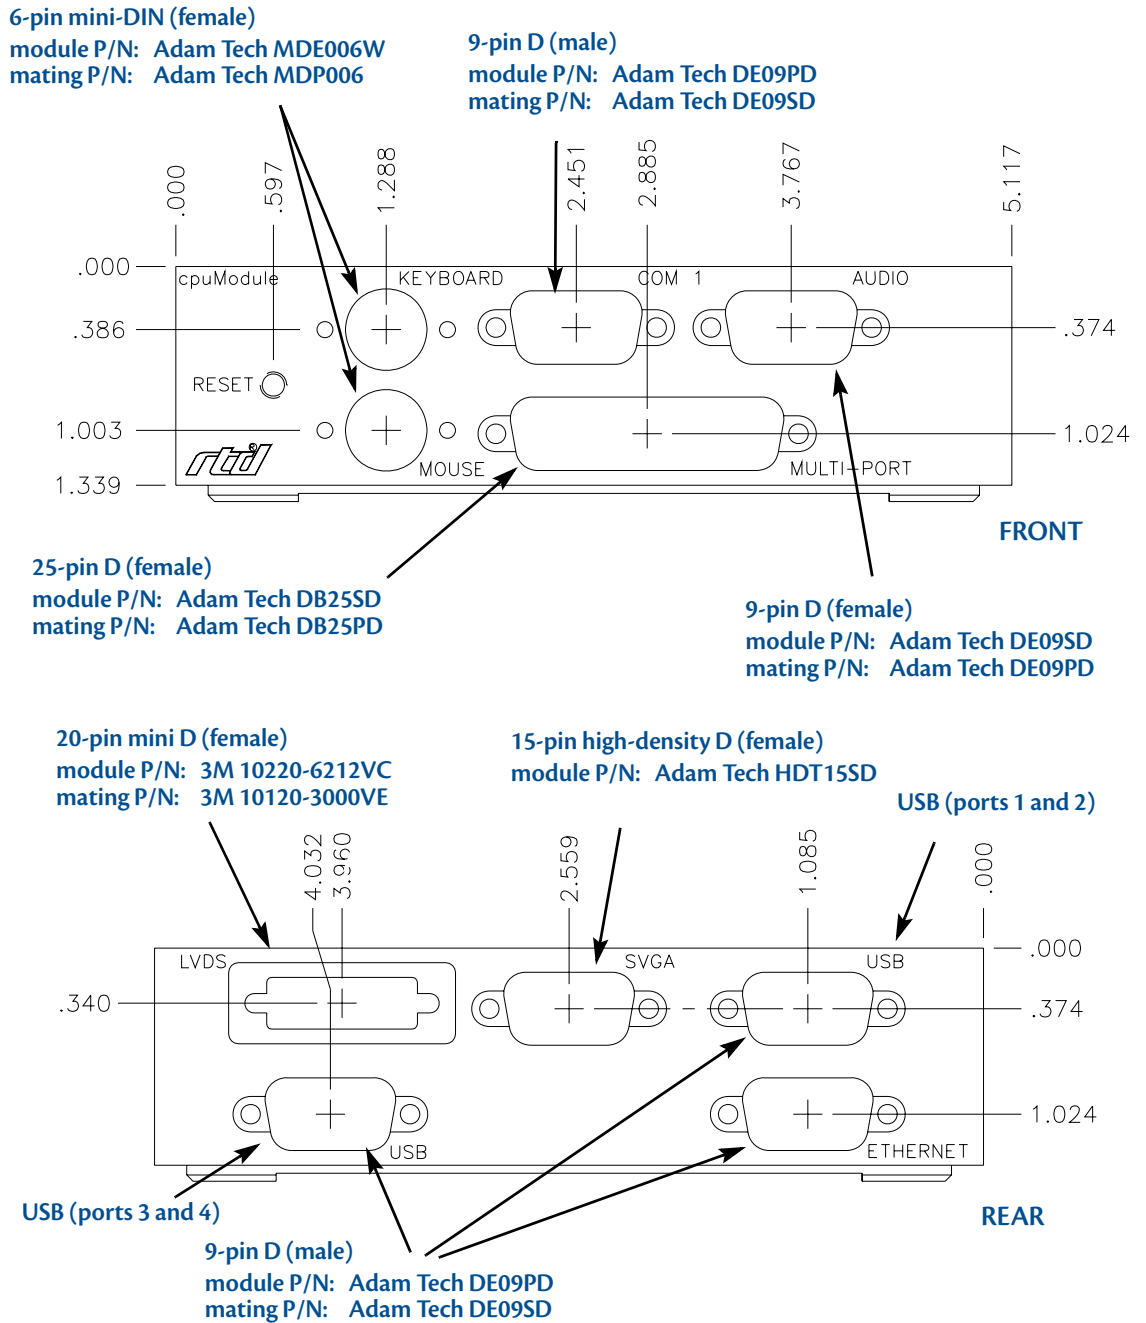

Figure 9 IDAN-CMD58886PX Connectors¹
1. Heatsink fins (not shown in Figure 9) extend 0.75 inches from the sides of the IDAN frame.